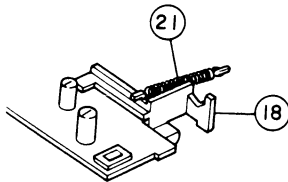

Figure 9
1. Remove spring A (21) as shown in Figure 9.